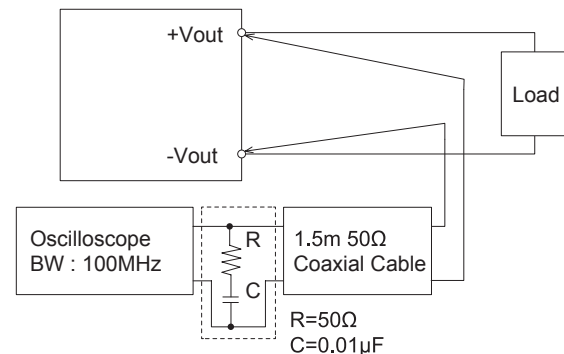

Fig1.2 Method of Measuring Output Ripple and Ripple Noise
■ The specified ripple and ripple noise are measured by the method introduced in Fig 1.2.